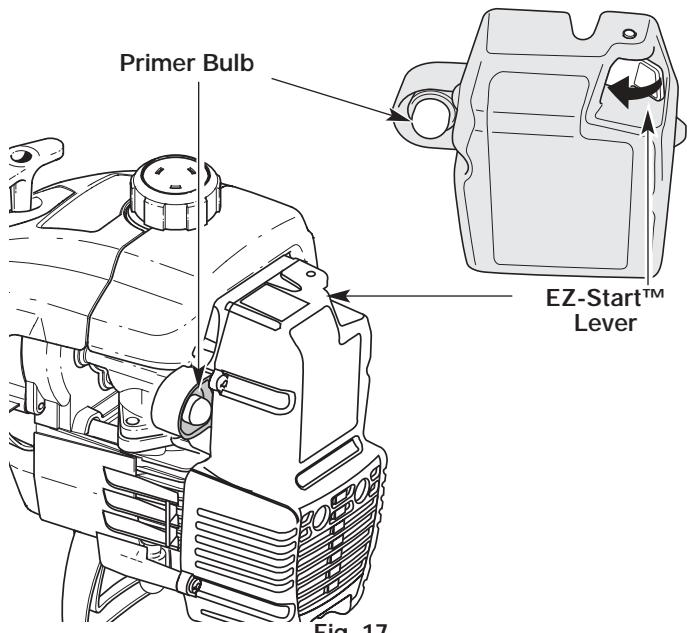

Fig. 17
3. Fully press and release the primer bulb 10 times, slowly, until **FUEL IS VISIBLE IN THE PRIMER BULB** (Fig. 17). If you can't see fuel in the bulb, press and release the bulb three (3) additional times, or as many times as it takes before you can see fuel in it.
4. Push the EZ-Start™ Lever to the left until it clicks and locks into place (Fig. 17).
6. Squeeze the throttle control for 5 to 10 seconds in order to warm up the engine. The EZ-Start™ Lever will click off automatically (Fig. 17).